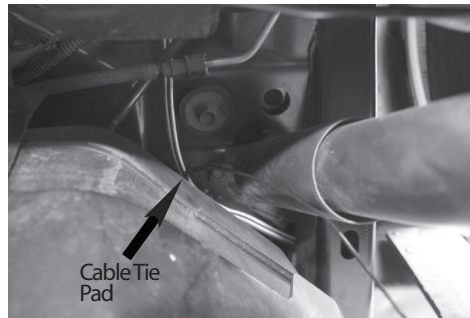

Figure 4
10. Route 4-Flat over top of fuel tank and secure with cable tie pad. Secure with a cable tie shown in **Figure 4**.